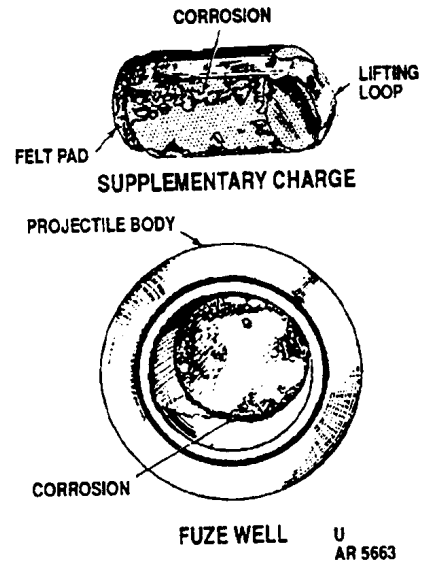

Figure 3-17. Corrosion in Fuze Well and on Supplementary Charge.
3.9.1.5 Corroded supplementary charge and/or fuze well liner (fig. 3-17).